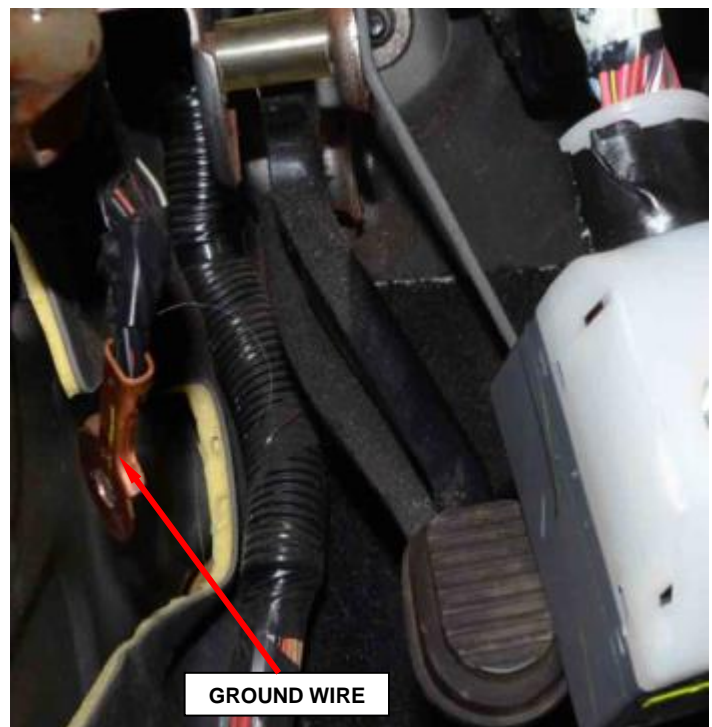

Figure 59 – Bolt and Ground Location
20. Remove the bolt and the ground from the left A-pillar (Figure 59).